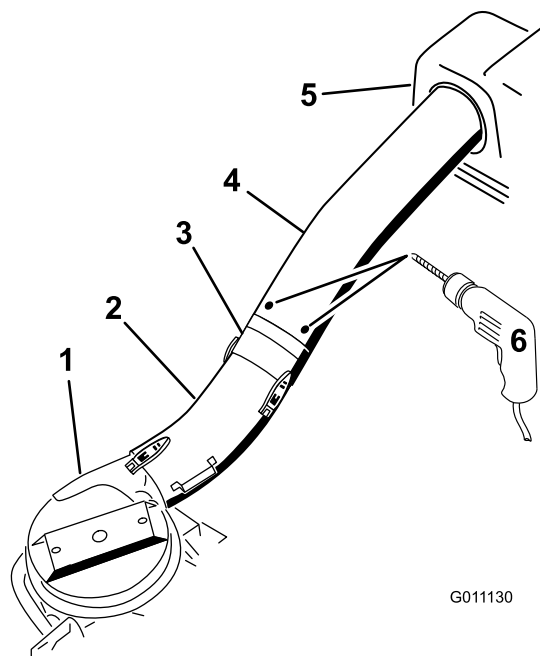

Figure 27
11. Using the three holes or indentations in the upper tube as a template, drill three holes (7/32 inch diameter) where the upper and middle tubes join together (Figure 27).